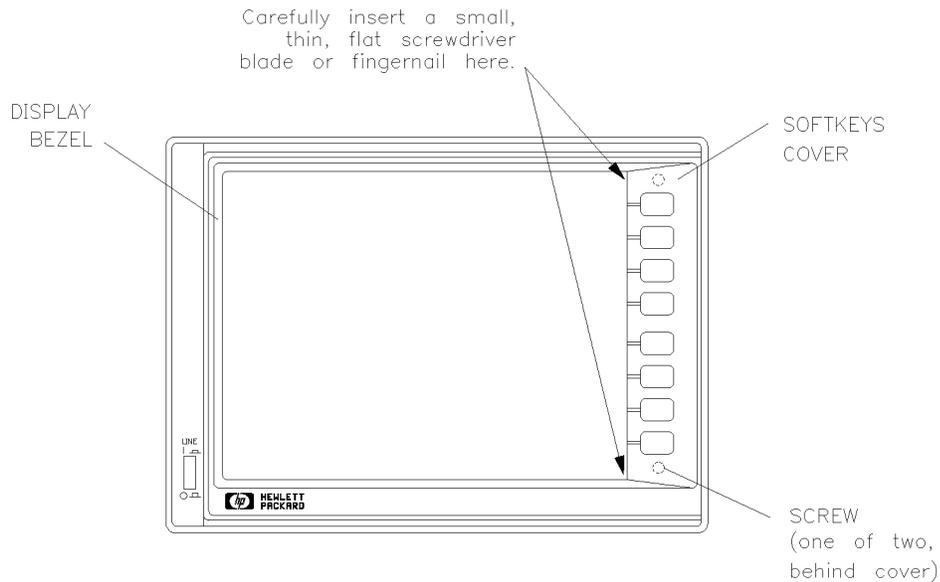

Figure 19-3. Removing the Glass Filter
1. Remove the softkeys cover (a plastic cover through which the front panel softkeys protrude): *carefully* insert a thin, flat screwdriver blade (or your fingernail) between the upper left corner of the softkeys cover and the glass filter. See Figure 19-3. Be extremely careful not to scratch or break the glass. Carefully pull the cover forward and off.